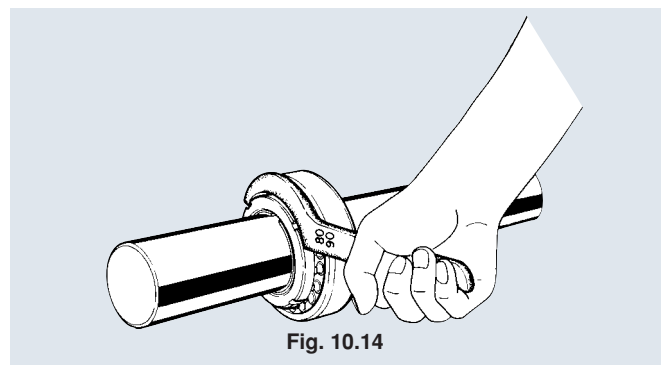

Fig. 10.14
- (6) To tighten the nut, use a spanner wrench illustrated in **Fig. 10.14**. When tightening the nut with a hammer and a drift, be sure that the chip from the drift does not enter the bearing.